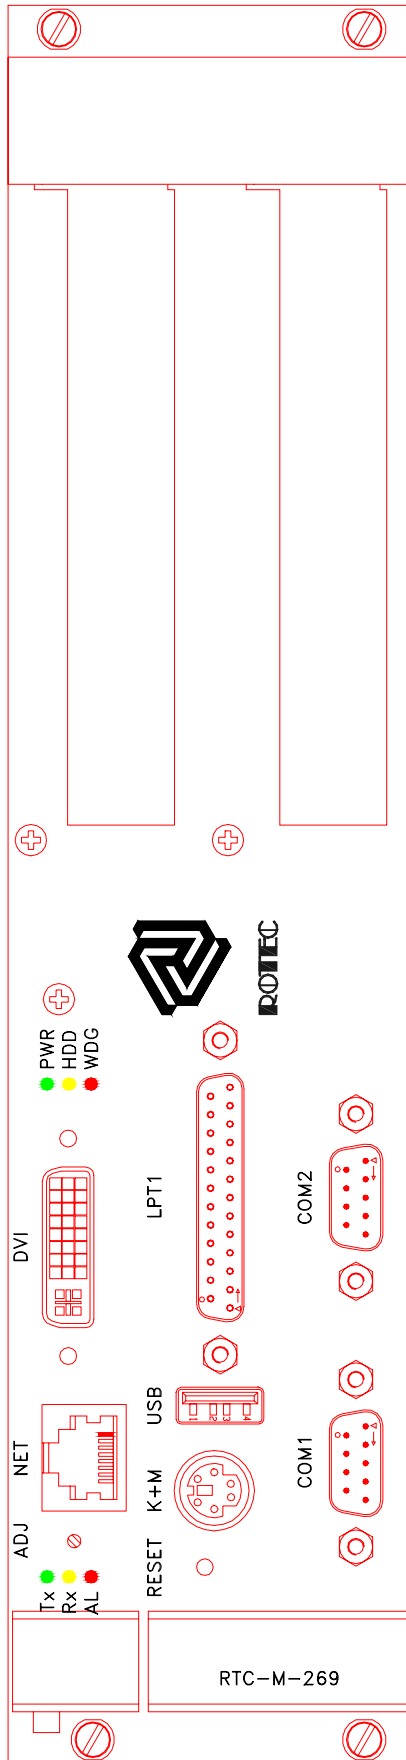

Fig. 4: Gamma7 (6 HE) - Front View
2. 6 HE (see Figure 4, height approx. 26 cm), allows for insertion of standard ISA cards (8 bit / 16 bit)